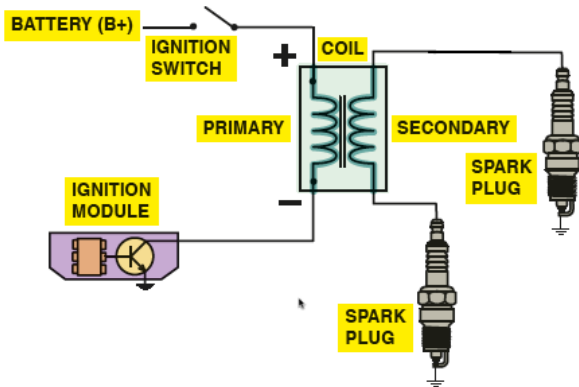

Figure 1. Waste spark system.
- Waste-spark system . This type of system uses one ignition coil to fire the spark plugs for two cylinders at the same time. Figure 1.